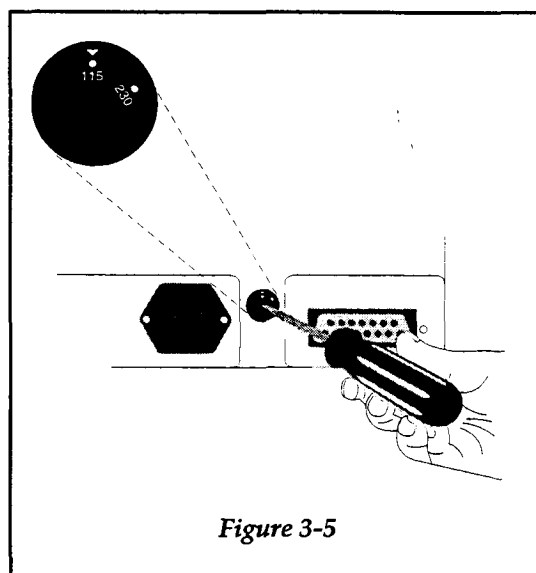

Figure 3-5
**Step 4** Make sure the voltage selector switch on the back of the unit is set correctly. Figure 3-5.